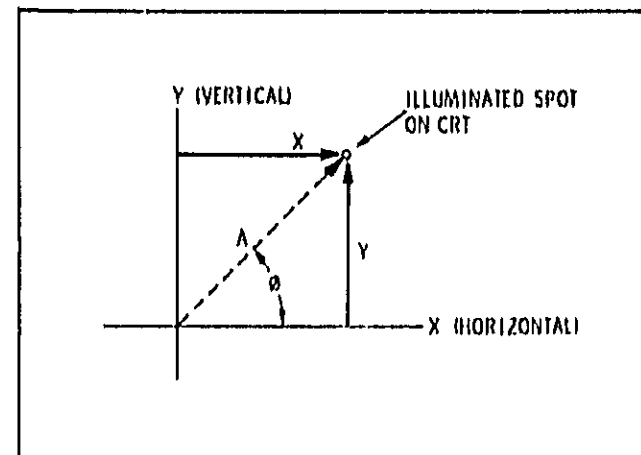

Figure 8-8. Horizontal and Vertical Vectors Required to Deflect CRT Beam
that can be displayed on the CRT. This is done by producing an illuminated spot on the CRT where the arrowhead of the vector would appear. (See Figure 8-8.) This can be interpreted into amplitude (A) and phase (phi) by the use of the built-in polar graph on the face of the CRT.
To produce the illuminated spot on the CRT, the amplitude and phase of the polar signal must be resolved into X (horizontal) and Y (vertical) rectangular components as shown in Figure 8-8. These X and Y signals are applied to the horizontal and vertical deflection plates producing a spot on the CRT representing the arrowhead of the vector.
Conversion from the two signals applied to the input of the Polar Display to the rectangular X-Y signal is accomplished by a 90 degree phase-shifter and two phase-detector circuits. To understand the operation of these circuits a brief discussion of the trigonometry used is presented. Figure 8-8 shows a vector diagram in the form of a right triangle of the signals discussed. From trigonometric relationships in a right triangle: